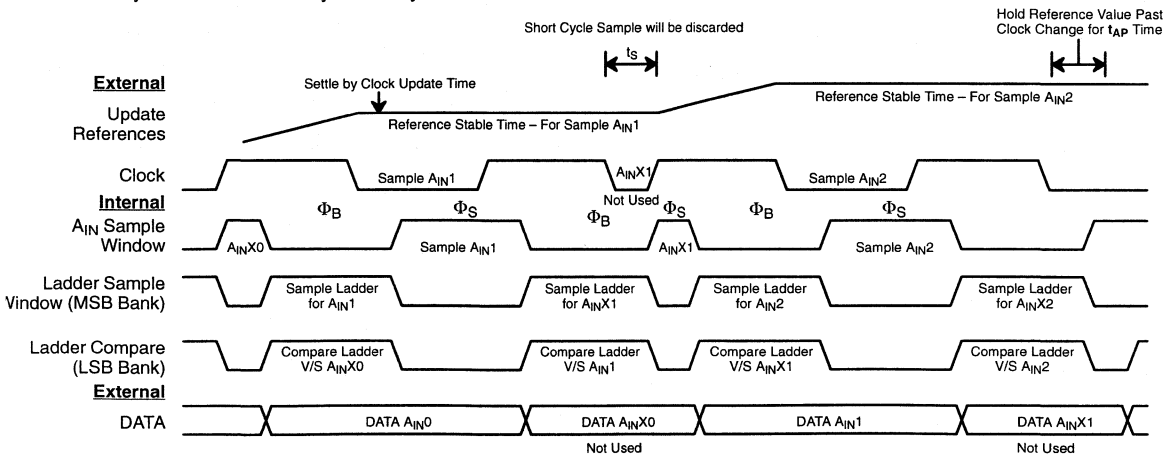
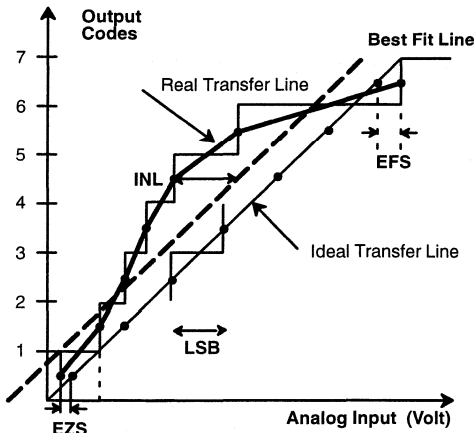

Figure 3. A_{IN} Sampling, Ladder Sampling & Conversion Timing
Figure 7. INL Error Calculation
- Tester measures code transition voltages by dithering the voltage of the analog input (V_{IN}). The difference between the measured code width and the ideal value ($V_{REF}/1024$) is the DNL error (see Figure 3). The INL error is the maximum distance (in LSBs) from the best fit line to any transition voltage (See Figure 7).
Figure 3. shows this relationship as a timing chart. A_{IN} sampling, ladder sampling and output data relationships are shown for the general case where the levels which drive the ladder need to change for each sampled A_{IN} time point. The ladder is referenced for both last A_{IN} sample and next A_{IN} sample at the same time. If the ladder's levels change by more than 1 LSB, one of the samples must be discarded. Also note that the clock low period for the discarded A_{IN} can be reduced to the minimum t_S time of 150 ns.
Figure 7. gives a visual definition of the INL error. The chart shows a 3 bit converter transfer curve with greatly exaggerated DNL errors to show the deviation of the real transfer curve from the ideal one.